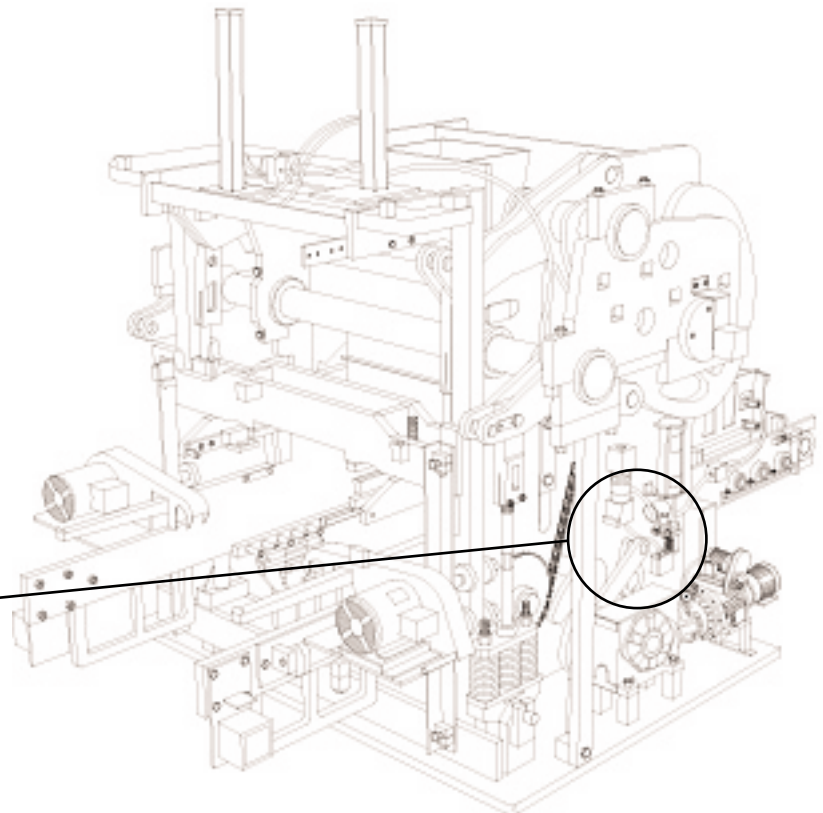

Figure 1.10 AIR SUPPLY CONNECTIONS.
8. Make air connections. (Refer to figure 1.10 on page 18)